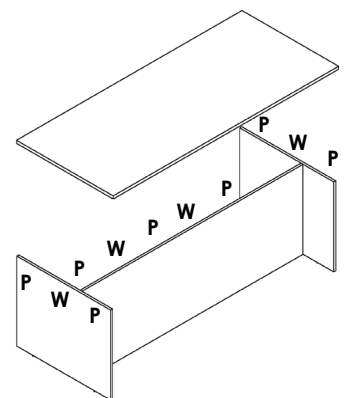

Figure 3: Attaching top to modesty and sides.
Step 4: Attach the top laminate piece to the modesty and sides (figure 3).